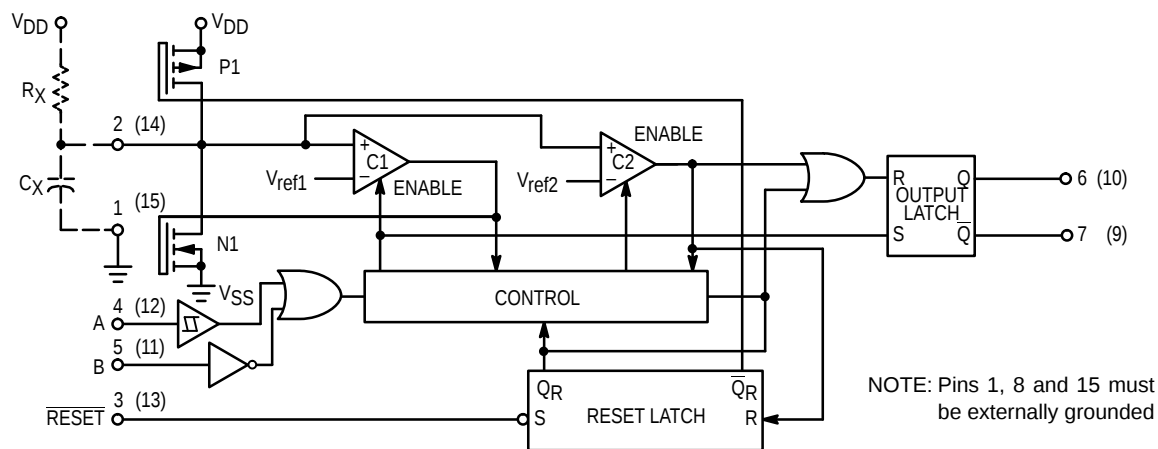

Figure 1. Logic Diagram
The block diagram of the MC14538B is shown in Figure 1, with circuit operation following.
As shown in Figure 1 and 10, before an input trigger occurs, the monostable is in the quiescent state with the Q output low, and the timing capacitor C_X completely charged to V_{DD} . When the trigger input A goes from V_{SS} to V_{DD} (while inputs B and Reset are held to V_{DD}) a valid trigger is recognized, which turns on comparator C1 and N-channel transistor N1 ①. At the same time the output latch is set. With transistor N1 on, the capacitor C_X rapidly discharges toward V_{SS} until V_{ref1} is reached. At this point the output of comparator C1 changes state and transistor N1 turns off. Comparator C1 then turns off while at the same time